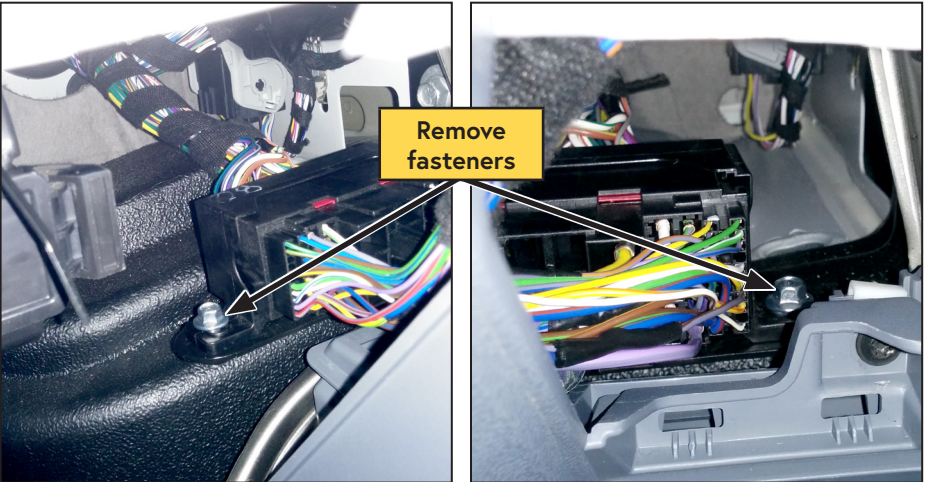

Figure 68 — Remove C210 connector
- Use an 8 mm socket to remove both the left and right fasteners holding the C210 connector (Figure 68).